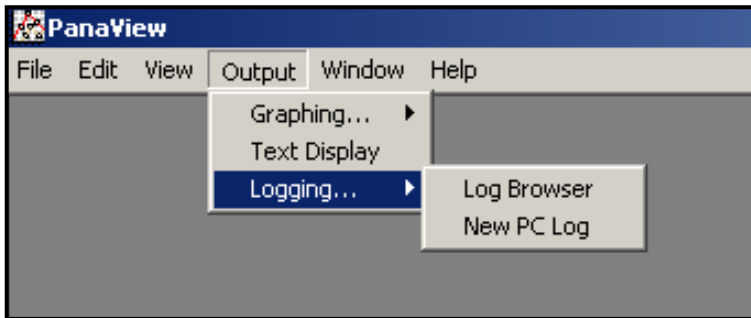
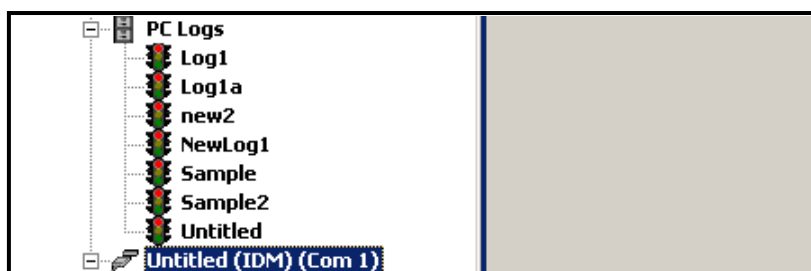
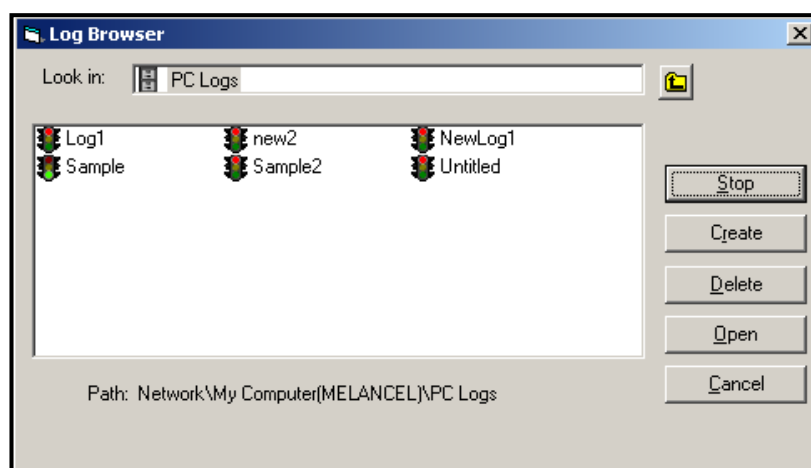

Figure 13: Selections in the Logging Option
Figure 22: The Expanded PC Logs Option
Figure 23: Selecting a Log File from the Log Browser
1. Open the *Output* menu (see *Figure 13*), and click on the *Logging* option.
- From the *New Meter Browser* in PanaView, expand the network tree and click on the *PC Logs* option. If you have created one or more logs, the tree will appear similar to *Figure 22*. Double-click on the log name to open the log, or
- Pull down the *Output* menu (see *Figure 13* on page 56), and click on the *Log Browser* option. Advance to the *PC Logs* dialog box as described in previous sections. A screen similar to that shown in *Figure 23* appears.
Notice that each of the log files in *Figure 22* and *Figure 23* has a traffic light icon next to its name. These icons indicate the current status of the log as follows: